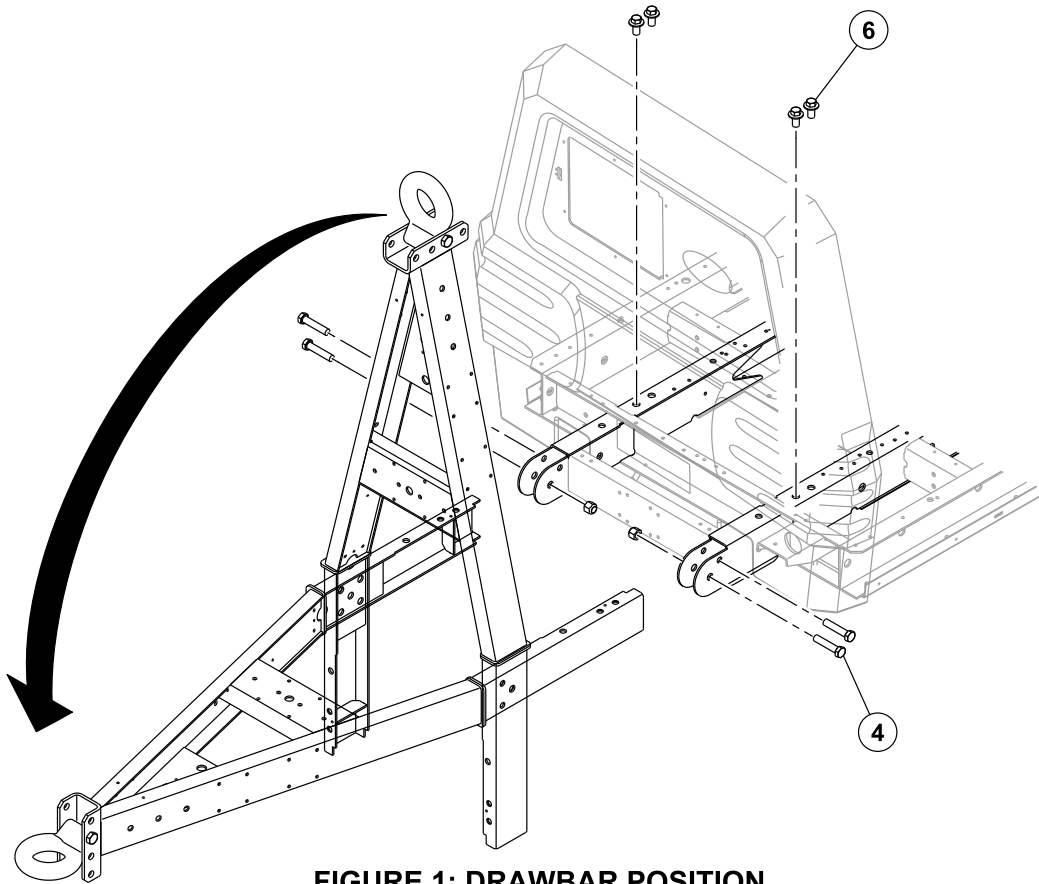

FIGURE 1: DRAWBAR POSITION
4. Remove the temporary Retaining Bolts from both sides of the Frame at the Drawbar connection (See Figure 1).
6. Install the Four Bolts (with Pre-applied Thread Lock) to the four points inside the Enclosure and Torque to 68 pounds (9.4 kg-meters) (See Figure 1).